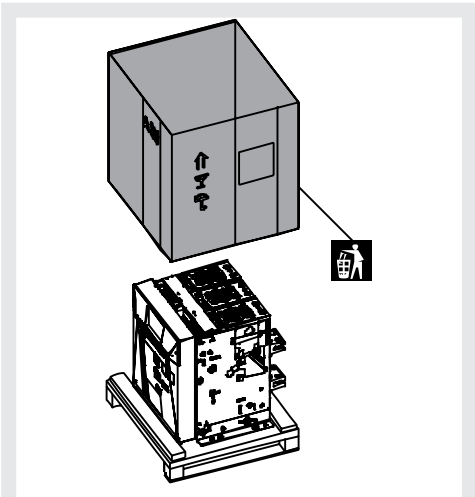

Figure 16
3. Remove the packing box by lifting it upwards. See Figure 16.